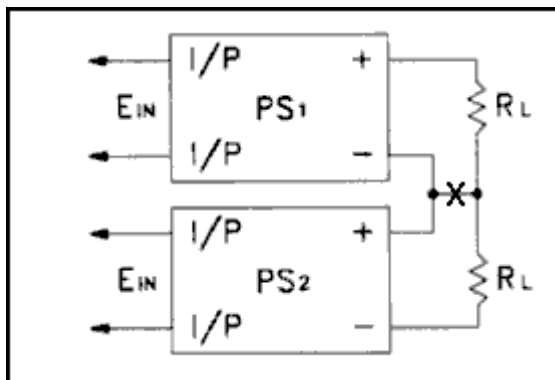

Fig. 15
a. Fig. 15 describes a sample setup for separate distinctive loads. Protective diodes (D1 and D2 below) may be necessary with this type of application to protect the power supplies if connection X is lost.